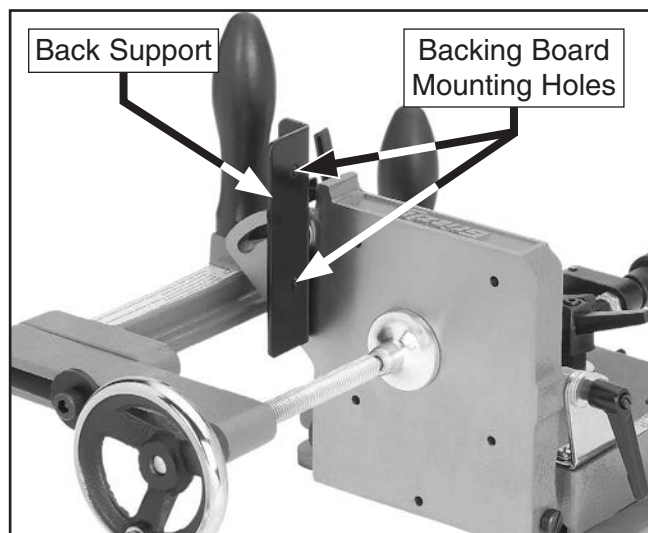

Figure 23. Mounting holes for back support backing board.
4. Cut a backing board approximately 2" wide by 9" tall out of a piece of $\frac{3}{4}$ " plywood, then mount it to back support using either wood screws through back of support or recessed cap screws and hex nuts through front of backing board (see **Figures 23–24**).